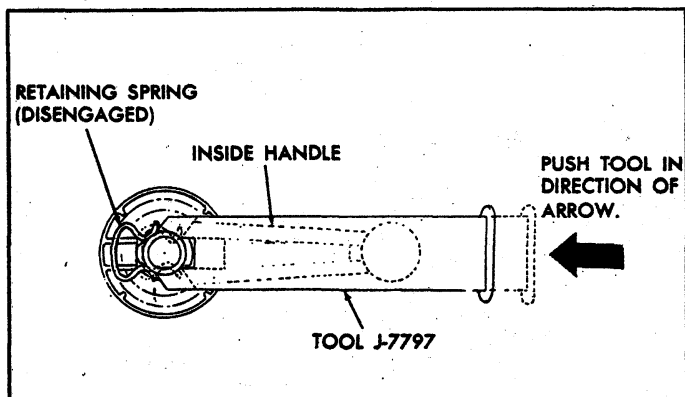

Fig. 28—Removing Window Crank With J7797.
2. Using Tool J-7797, remove clips retaining window crank and lock remote control as shown in Figure 28.